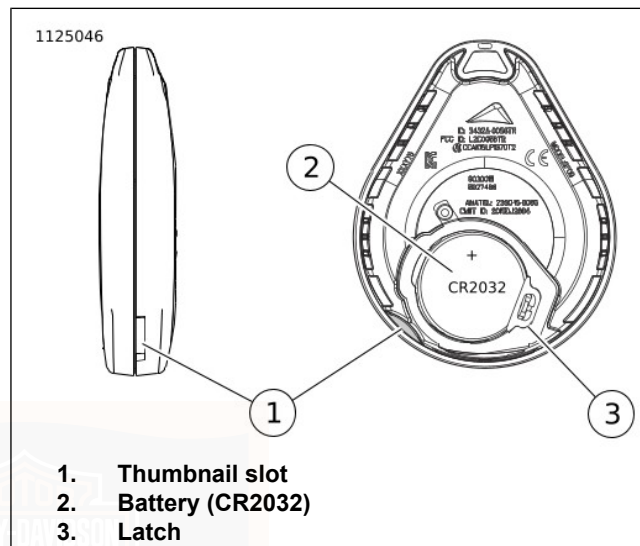

Figure 41. Replace Fob Battery
- a. See Figure 41. Place a thin blade in the thumbnail slot (1).